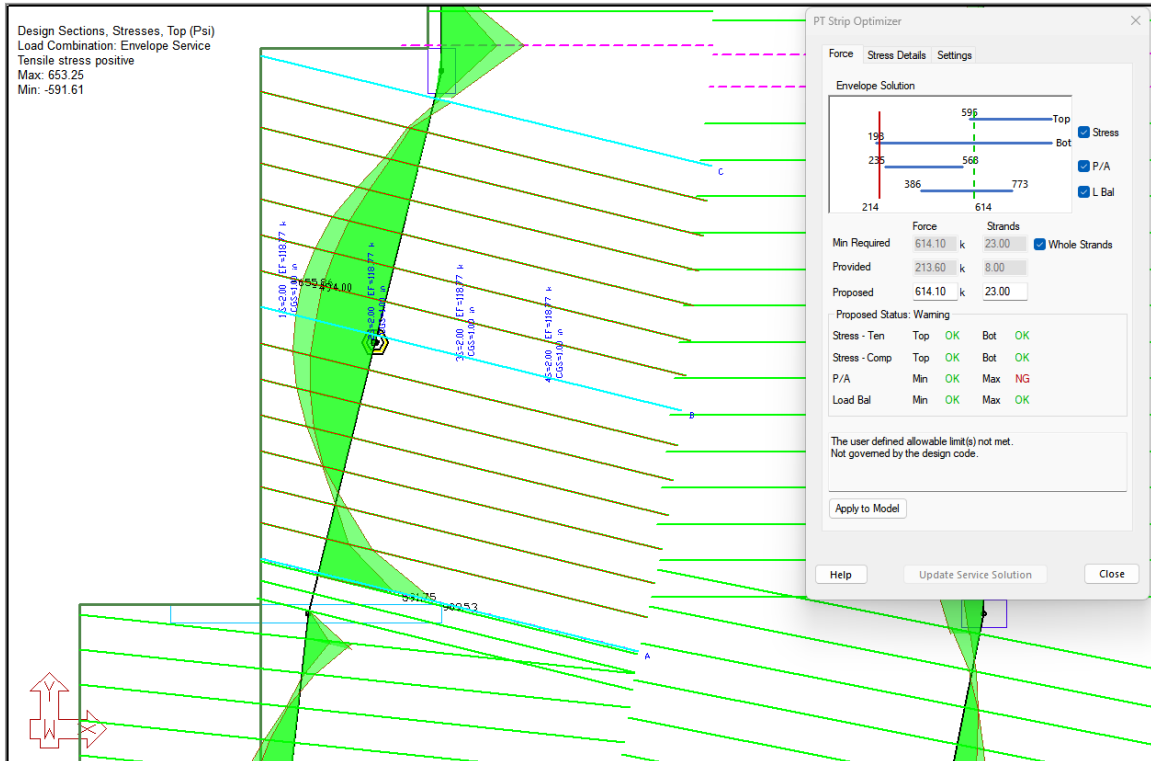

FIGURE 9-109
- Drag to window select the black and yellow hexagon for the middle support line span. Your screen should now look like **FIGURE 9-109**.